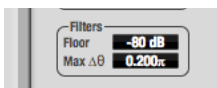

Figure 9-54: Filters
The *Filters* section (Figure 9-54) lets you control the density of the Phase Analysis display.
*Floor* (Figure 9-54) determines the amplitude threshold for the display. When the amplitude of both channels drops below this threshold, the signal is not shown.
*Max delta theta* (Figure 9-54) only affects Line view (see “Line/Scatter” on page 93) and sets the maximum difference in frequency between plot points in the line plot. For two adjacent